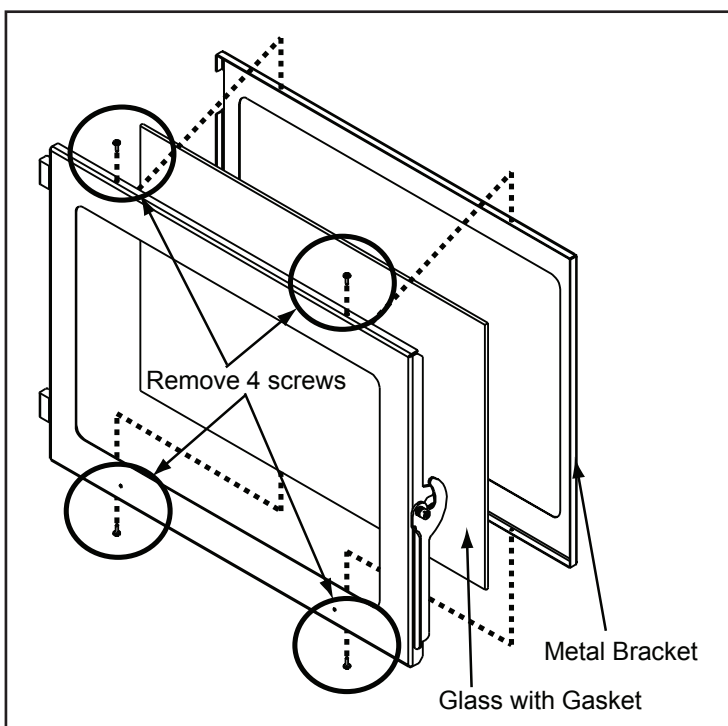

Figure 41.1
- Using a Phillips head screw driver, remove 4 screws 2 on the top and 2 on the bottom. Remove metal bracket and then remove the glass. **Figure 41.1.**